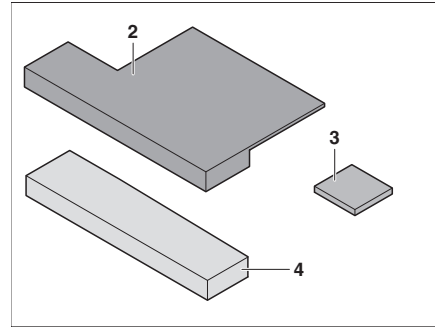

Fig. 190 Additional cushion
- If available, attach the seat wedge (Fig. 190,3) to the additional cushion (Fig. 190,2) (with hook and loop fastener).